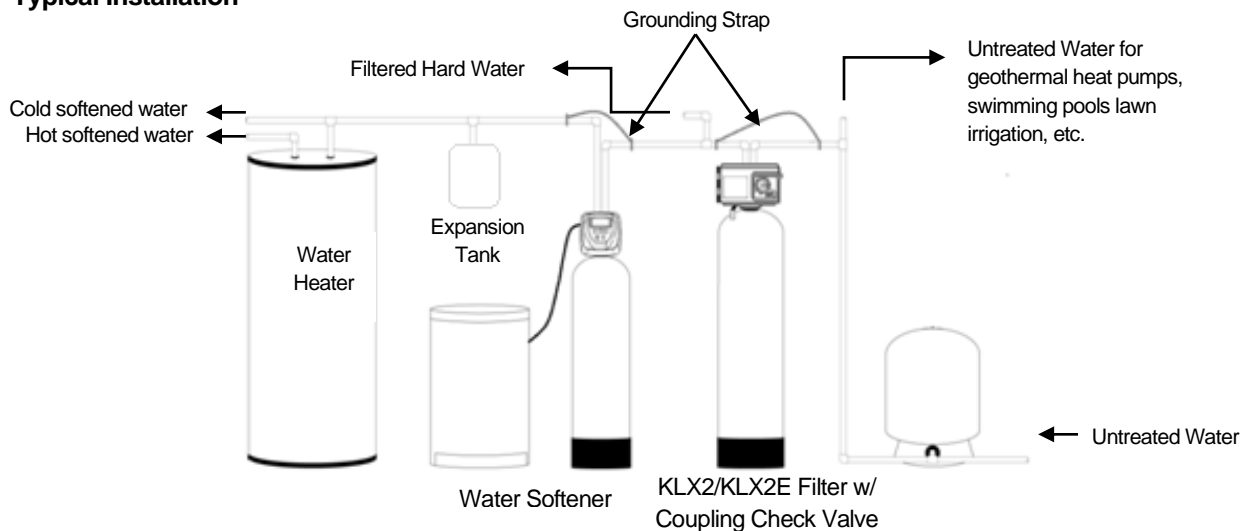

FIGURE 1: Typical Installation
7. Appliances requiring extended periods of continuous or high flow water use (i.e. geothermal heat pumps, swimming pools, lawn irrigation, outside hose bibs, etc.) should bypass the filter and a spring check valve should be installed on the filter inlet to prevent backflow of air from the filter tank (see installation diagram Fig. 1).
- If there are any branches in the plumbing between the pressure tank and the KLX you must install the CKV-1 coupling check valve and an expansion tank (Figure 1, Page 4). See CKV-1 installation instructions on page 19.**